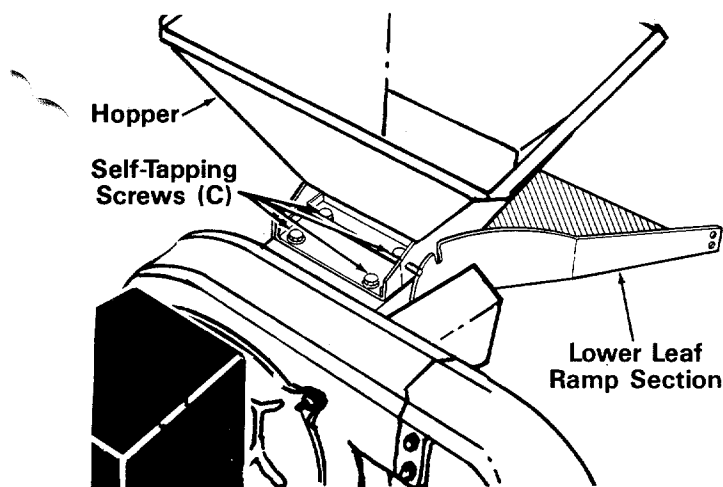

FIGURE 3.
2. Place the hopper in position on the shredder. See figure 3. Start all four hex washer head self-tapping screws (C), then tighten securely using a 1/2" socket wrench.